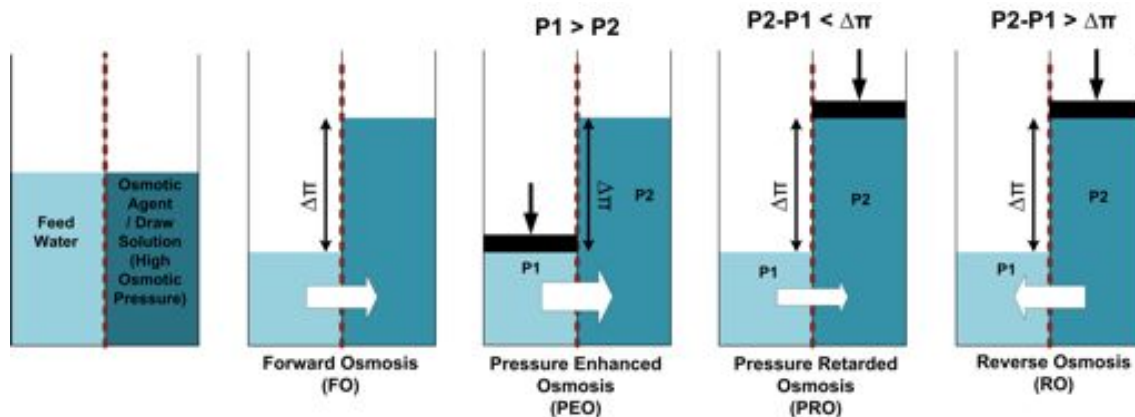

Figure 8. Overview of Osmosis Based Membrane Processes
Figure 8 provides a comparison of osmosis based technologies including forward osmosis (FO), reverse osmosis (RO), pressure retarded osmosis (PRO) and Pressure Enhanced Osmosis (PEO). PRO and PEO are variations of FO. PRO utilizes FO to capture osmotic energy and reuse as hydraulic or electrical energy. PEO adds external pressure to FO to make the separation process faster. P designates hydrostatic pressure, while π designates osmotic pressure. When both the feed water and “draw solution” have the same osmotic pressure, then they are at the same hydrostatic level as shown in the first part of the illustration. The efficiency of osmosis related processes are primarily determined by the amount of osmotic pressure difference and membrane permeability.